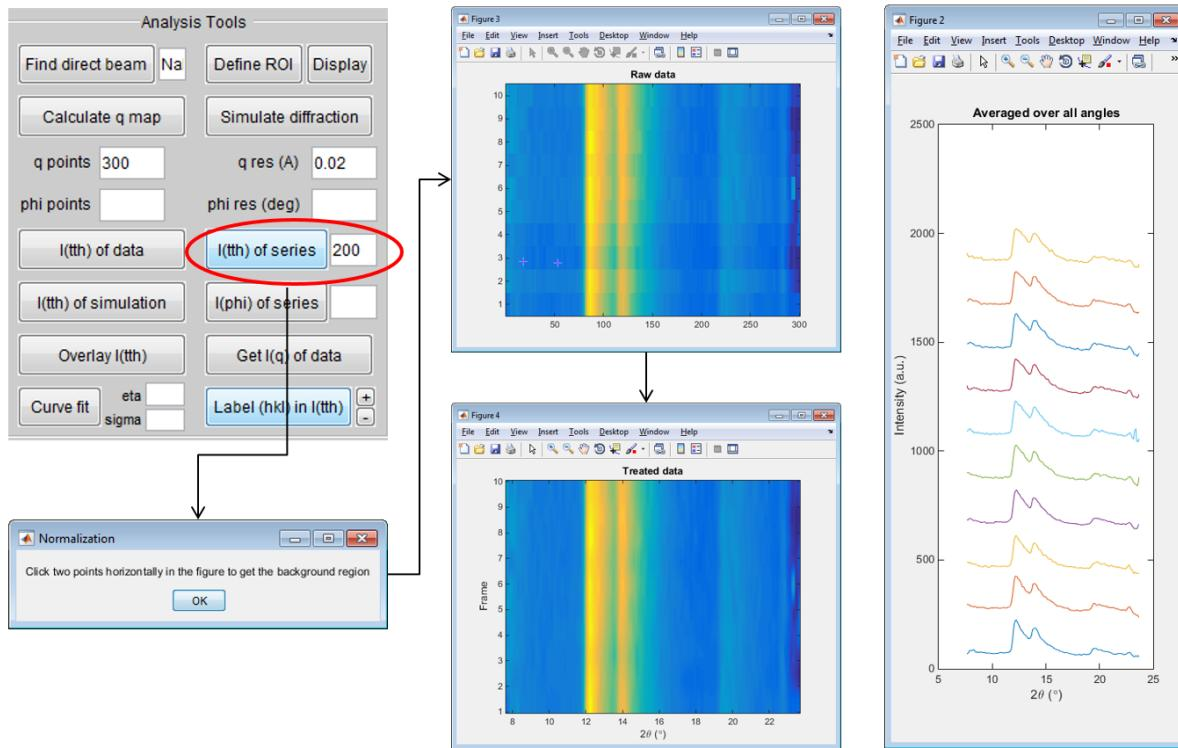

Figure 4.8 Calculate 1D intensity profiles for a batch of diffraction patterns
- 4) Click “I(tth) of series” button to obtain 1D intensity profiles from the loaded data files. The space to the right of the button takes input of a number, which will help spacing individual intensity profile off in the final plot, as shown in Fig. 4.8. Once clicked, a message window will show up with the instruction for the following step. Click “OK”, then a 2D intensity pattern will show up. The vertical axis is the frame number, and the horizontal axis is 2theta scattering angle. This is a pattern that piles all individual 1D intensity profiles together, which helps the user to observe the change in the scattering intensity due to a certain sample event. Click two points laterally (i.e. within same frame) in a flat part of the intensity map to define an angle range that contains flat background. Then all 1D intensity profiles will subtract their own background intensity (calculated within the same angle range), and re-pack together to generate a new 2D intensity pattern. Along with background subtraction, the new 2D intensity pattern will be populated in pixels via data interpolation, in order to display a smoother visualization effect.